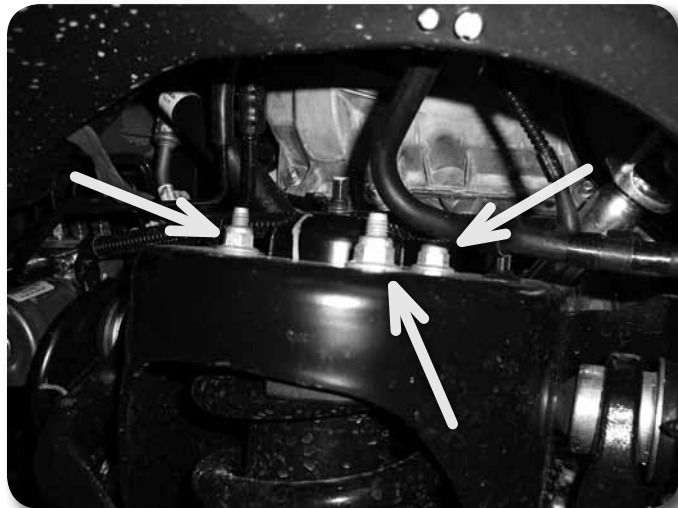

Figure 6
11. Support the lower control arm with an appropriate jack. Remove the three upper strut mounting nuts at the frame. **Figure 6** DO NOT remove the center strut rod nut. Save nuts.